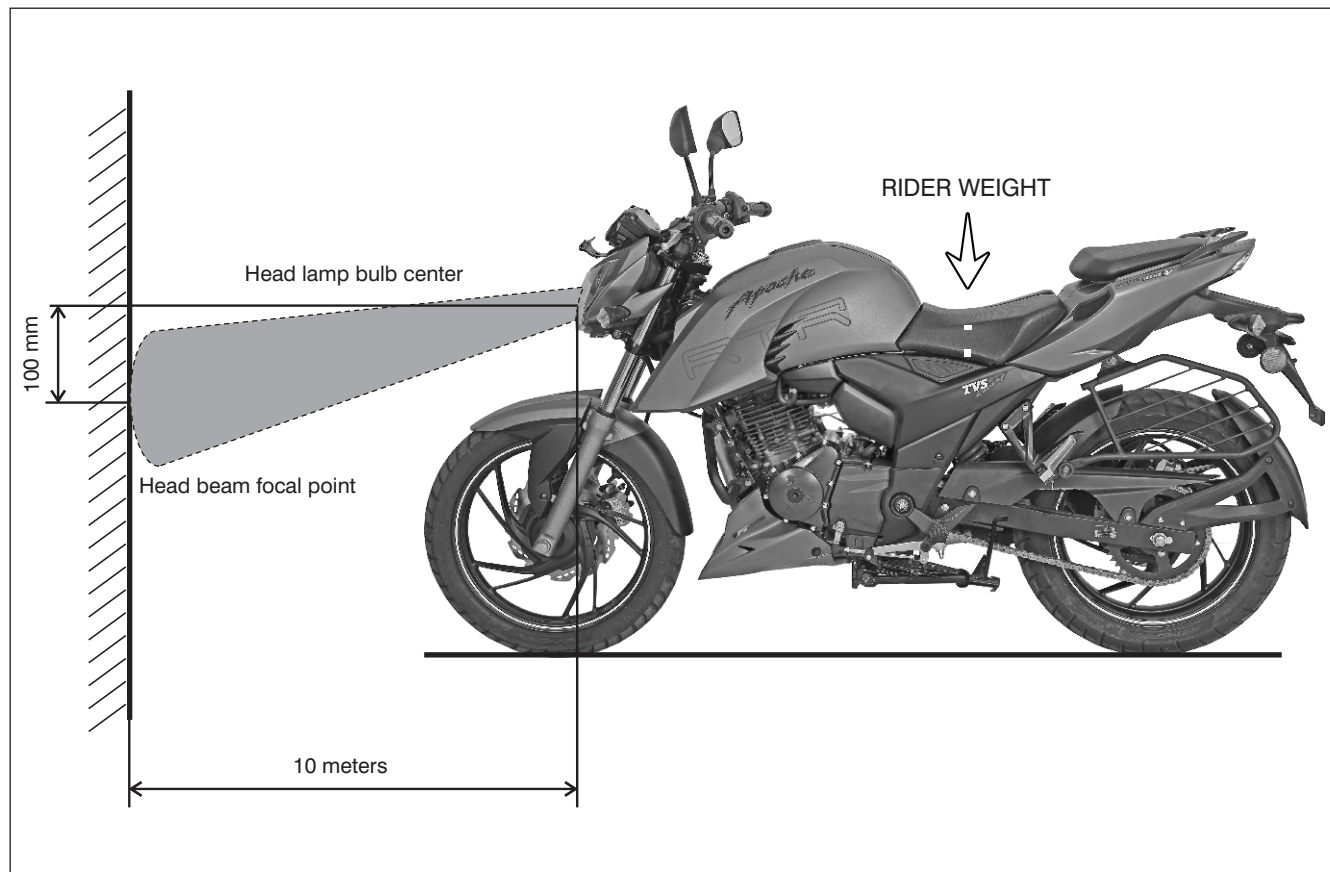

Fig. 2.105
- Keeping the bike in a straight line, sit on the bike to aim the head lamp beam vertically. Focus head lamp high beam on a vertical screen, which is at a distance of 10 meter from the head lamp bulb's center point. Adjust head lamp assembly such that the focal point of high beam on the screen is 100 mm lower than the head lamp bulb's center. (Fig. 2.105)